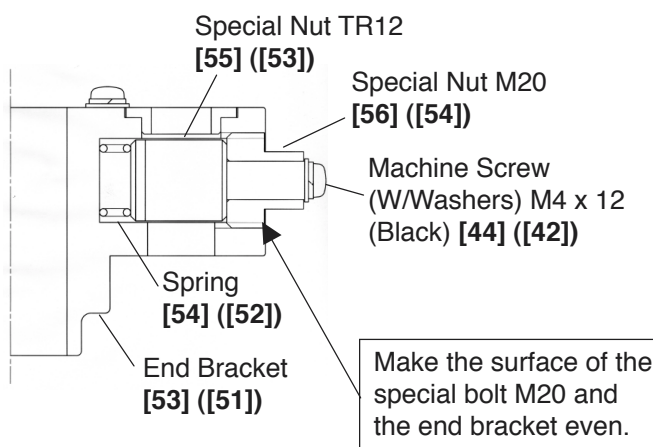
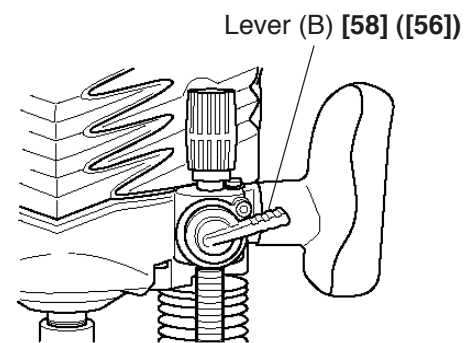

Fig. 9
Fig. 10
(1) Reassembly of the Special Nut TR12 [55] ([53]) (Fig. 9 and Fig. 10)
- (c) Attach Lever (B) [58] ([56]) with the position as Fig. 10. And secure it with the Hex. Socket Set Screw M6 x 6 [59] ([57]).